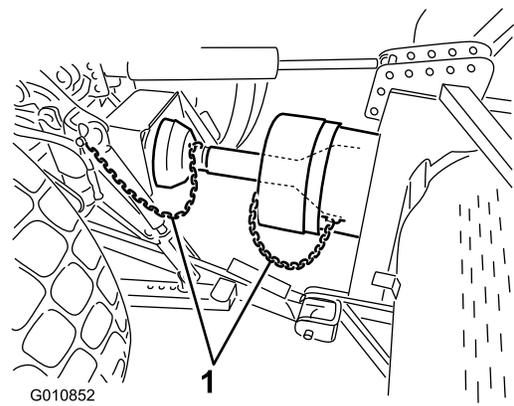

Figure 22
6. Connect the shield safety chains to the PTO shield and the tractor bracket (Figure 22). Make sure the chains remain slack when the aerator is raised or lowered.